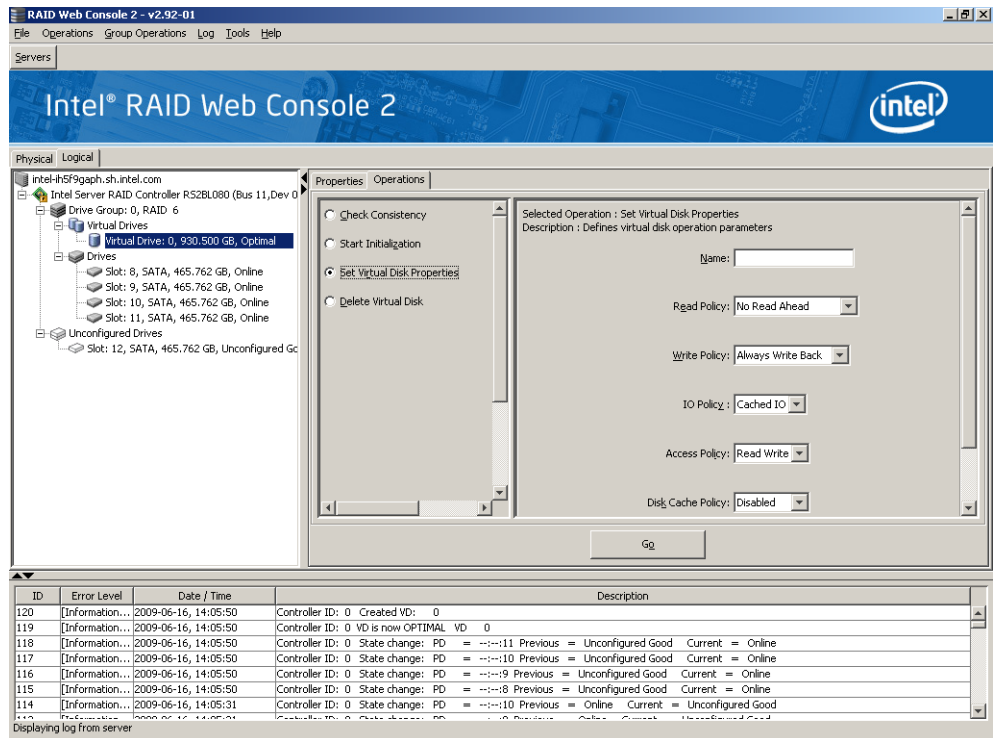

Figure 69. Set Virtual Disk Properties
1. Select a virtual disk icon in the left panel and then select **Operations | Set Virtual Disk Properties**. Alternatively, click the **Properties** panel and then click **Set Virtual Disk Properties**. Figure 69 shows the Set Virtual Disk Properties screen.